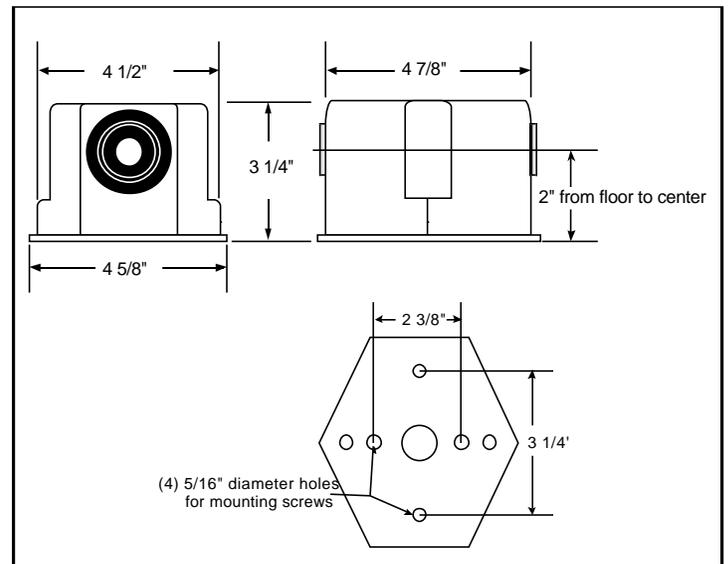

Figure 3. Dimensions
1. Position the mounting base plate as a template and mark the four through holes. Remove the plate and drill holes 3/8" x 1-5/8" deep in the floor. See Figure 3.
3. Place the gasket on the floor. Set the plate over the gasket with the extruded bosses facing away from the gasket and secure using (4) #1/4-20 x 1" screws (supplied). Install the conduit nut on top of the plate.